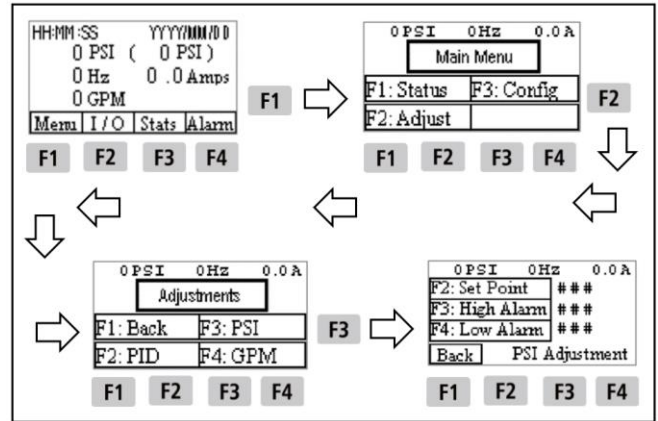

Figure 12-10. Adjusting The Pump Pressure Set Point.
3. From the System Status screen, press the **F1** Menu key to get to the Rain Bird Main Menu screen (see Figure 12-10).
4. From the Rain Bird Main Menu screen, press the **F2** Adjust key to get to the Adjustments menu (see Figure 12-10).
5. Press the **F3** PSI key to get to the PSI Adjustment screen (see Figure 12-10).